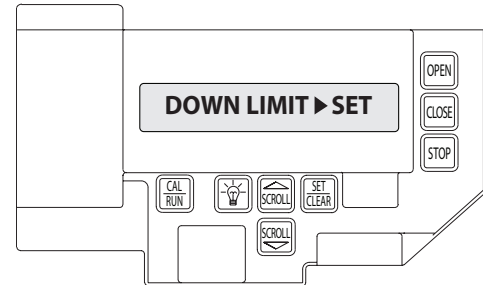

Figure 8
- 4) Press SET/CLEAR  key to switch display to "UP LIMIT>SET " or "DOWN LIMIT>SET ." **Figure 8.**
- 2) Press SCROLL  until display reads "UP LIMIT>SET " or "DOWN LIMIT>SET ." **Figure 8.**